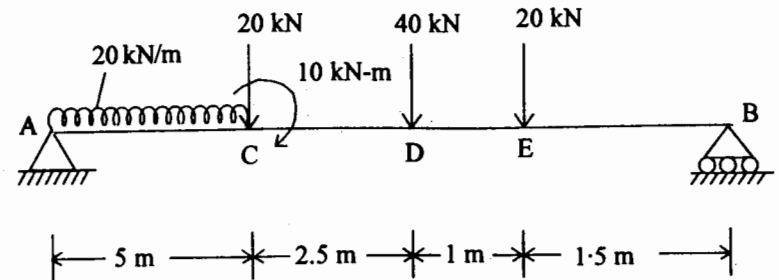

Fig. 2
- (b) Derive shear force and bending moment equations and draw the SFD and BMD for the beam shown in Fig. 2. Find out the position and magnitude of maximum bending moment.